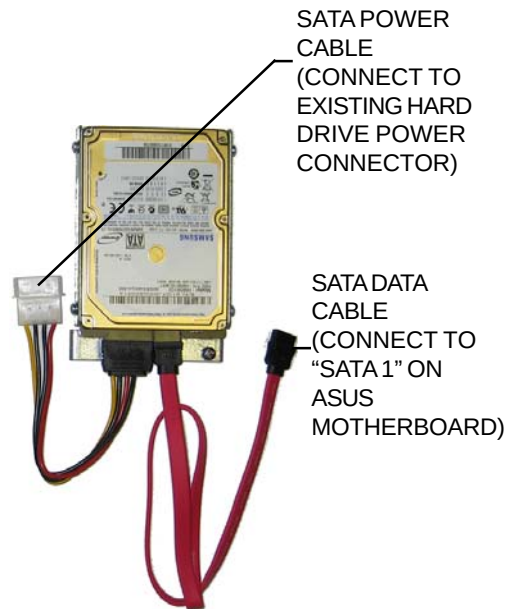

FIGURE 4 - NEW **SATA** HARD DRIVE ASSEMBLY
- 10b. **ASUS motherboards ONLY:** Connect the free end of the SATA power cable (installed in step 7b) to the hard drive as shown in Figure 4. Connect the provided SATA data cable to the hard drive as shown in Figure 4 and connect the other end of this cable to the "SATA 1" header on the motherboard (see Figure 2).